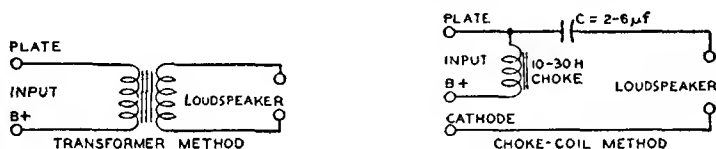

Fig. 72
Output-coupling devices are of two types, (1) choke-capacitor and (2) transformer. The choke-capacitor type includes an iron-core choke with an inductance of not less than 10 henrys which is placed in series with the plate and B-supply. The choke offers a very low resistance to the dc plate current component of the signal voltage but opposes the flow of the fluctuating component. A bypass capacitor of 2 to 6 μf supplies a path to the speaker winding for the signal voltage. The transformer type is constructed with two separate windings, a primary and a secondary wound on an iron core. This construction permits designing each winding to meet the requirements of its position in the circuit. Typical arrangements of each type of coupling device are shown in Fig. 72. Examples of transformers for push-pull stages are shown in several of the circuits given in the CIRCUIT SECTION.